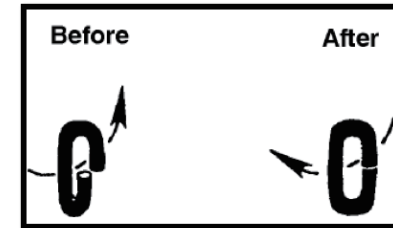

FIG 9
7. Using an adjustable wrench, twist the link horizontally until the link is in the original closed position. See FIG 9.